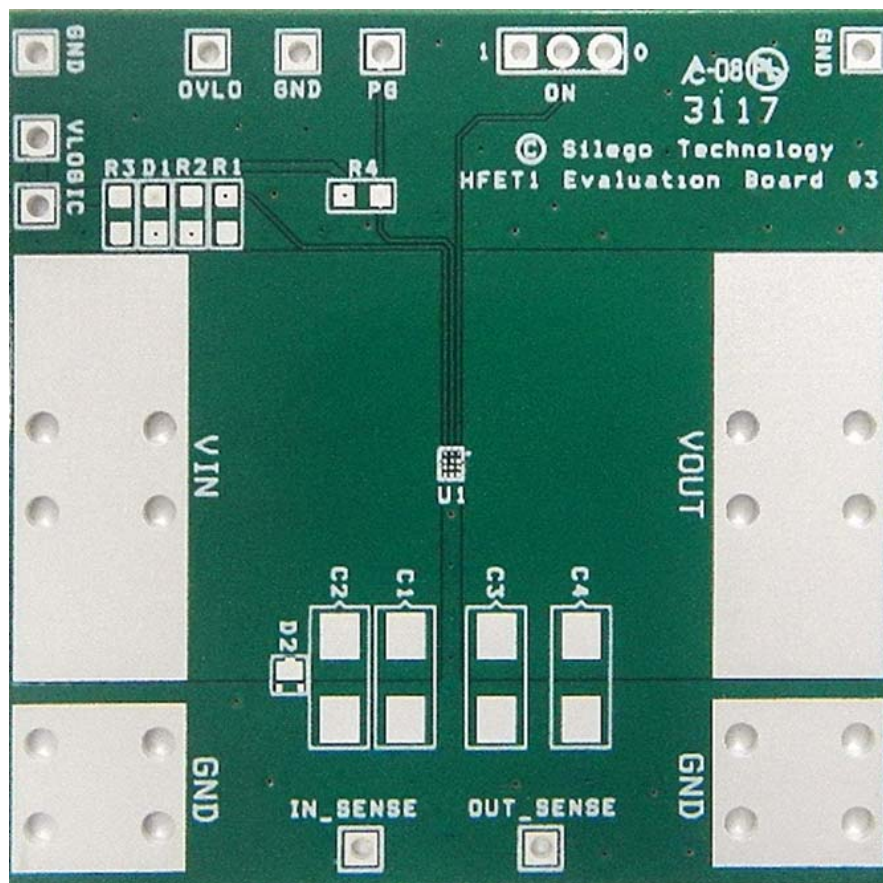

Figure 30. SLG59H1313C Evaluation Board
1. Since the IN and OUT pins dissipate most of the heat generated during high-load current operation, it is highly recommended to make power traces as short, direct, and wide as possible. A good practice is to make power traces with an absolute minimum widths of 15 mils (0.381 mm) per Ampere. A representative layout, shown in Figure 30, illustrates proper techniques for heat to transfer as efficiently as possible out of the device;
A High Voltage GreenFET Evaluation Board for SLG59H1313C is designed according to the statements above and is illustrated on Figure 30. Please note that evaluation board has IN\_Sense and OUT\_Sense pads. They cannot carry high currents and dedicated only for RDSON evaluation.